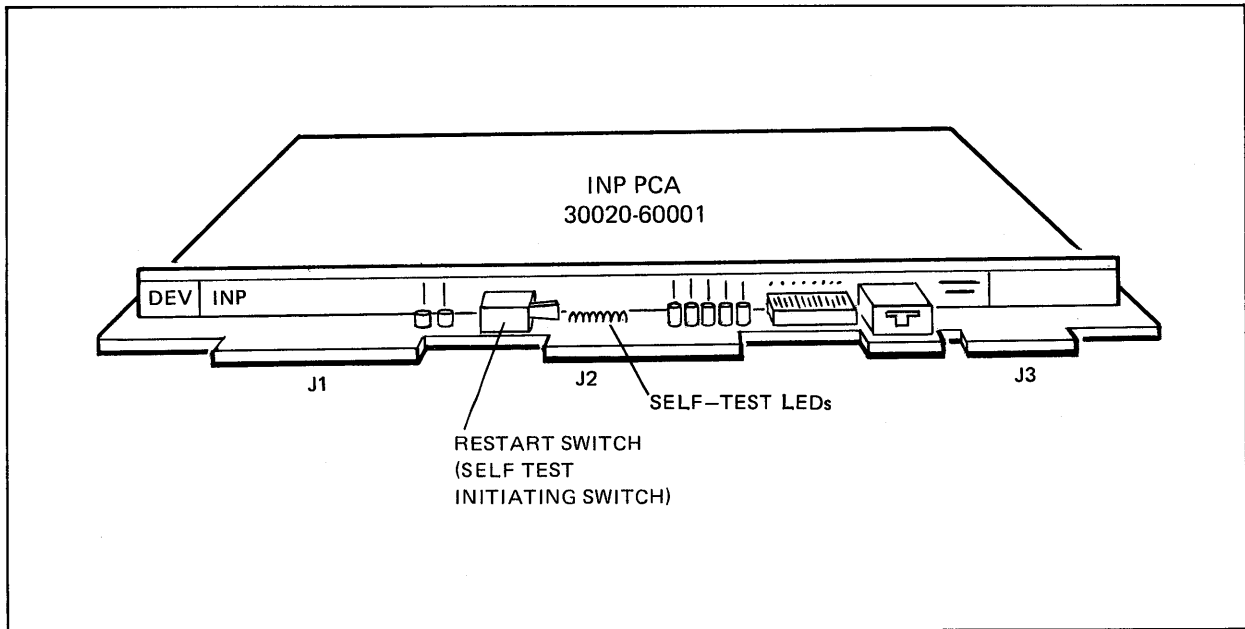

Figure 2-6. Self-test Switch and LED Indicators
- c. Press the red, spring-loaded RESTART switch on the edge of the INP PCA board (figure 2-6) to manually initiate the self test.
- d. Watch the self-test light-emitting-diode (LED) indicators (figure 2-6) as the self-test program goes through its cycle. Upon completion of the self test (approximately 2 seconds in duration), the LEDs will stop winking and will display a steady pattern. If the two LEDs at each end (0 and 7) are lighted while all the others are off, the INP is working properly. If any other pattern of lighted LEDs is being displayed, the INP is malfunctioning.